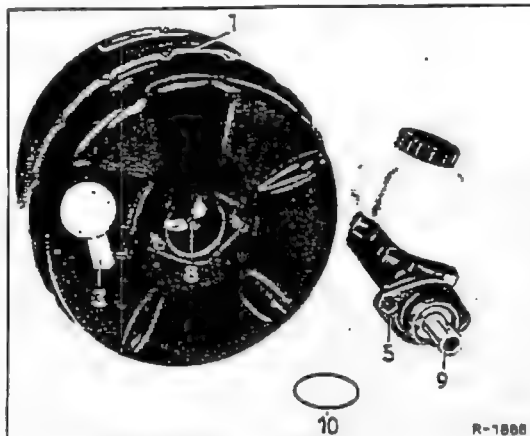

Fig. 42-3a/13
7. Put the O-ring (10) in the groove and attach the tandem master cylinder (5) to the power
brake (1). Tighten the hexagon nuts with a torque of 1.8—2 mkg (Fig. 42-3a/13).